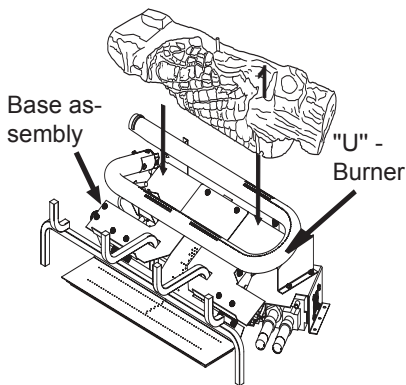

Figure 31 - Installing Log # 1
- Place the rear log (#1) on base assembly as shown in Figure 31. Log will fit over right end of burner and rest in middle of U-burner.